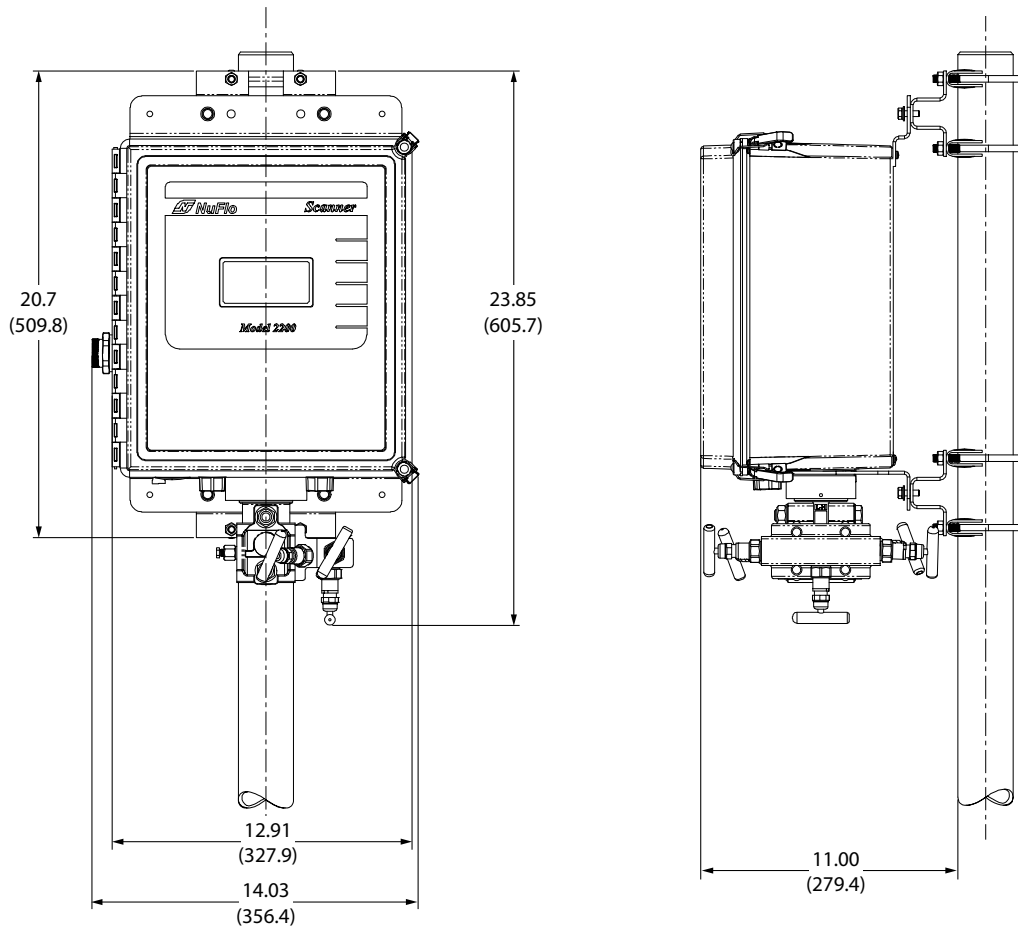

Figure 2.4—Scanner 2200 with side-port MVT and side-mount manifold on a 2-in. pole (shown here with an optional extension bracket)
While the standard MVT has process connections on the bottom, compensated liquid and steam applications may require the use of a side-port MVT and side-mount manifold (to help eliminate air in the process line). In such installations, an optional extension bracket is recommended to provide the necessary clearance for the MVT and manifold assembly. This bracket is shown in Figure 2.4, page 26. Contact your local Cameron sales office for details.
1. Determine the piping configuration that will best accommodate process connections and field wiring connections. If a side-port MVT and manifold is required (typically, only for compensated liquid and steam applications, an optional extension bracket may be connected to the standard bracket to provide additional clearance from the pipe (shown in Figure 2.4, page 26).